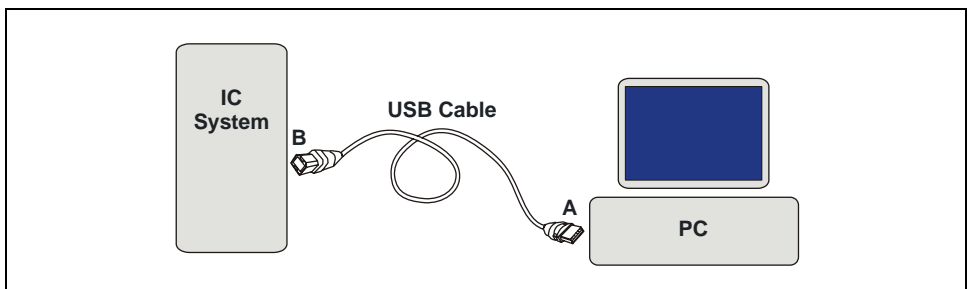

Figure 13. Example USB Connections: One IC System Connected to the PC
2. Plug the cable's "A" connector into a USB port on the Chromeleon PC and plug the cable's "B" connector into the USB receptacle (labeled **FROM PC**) on the IC system rear panel (see Figure 13).